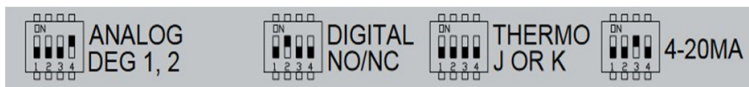

Figure 3.12 – Hardware switch settings for each channel on the Terminal Module
- D. Set the hardware DIP switch for Channel 2 of Terminal 1 to **THERMO J or K** (Figure 3.12).